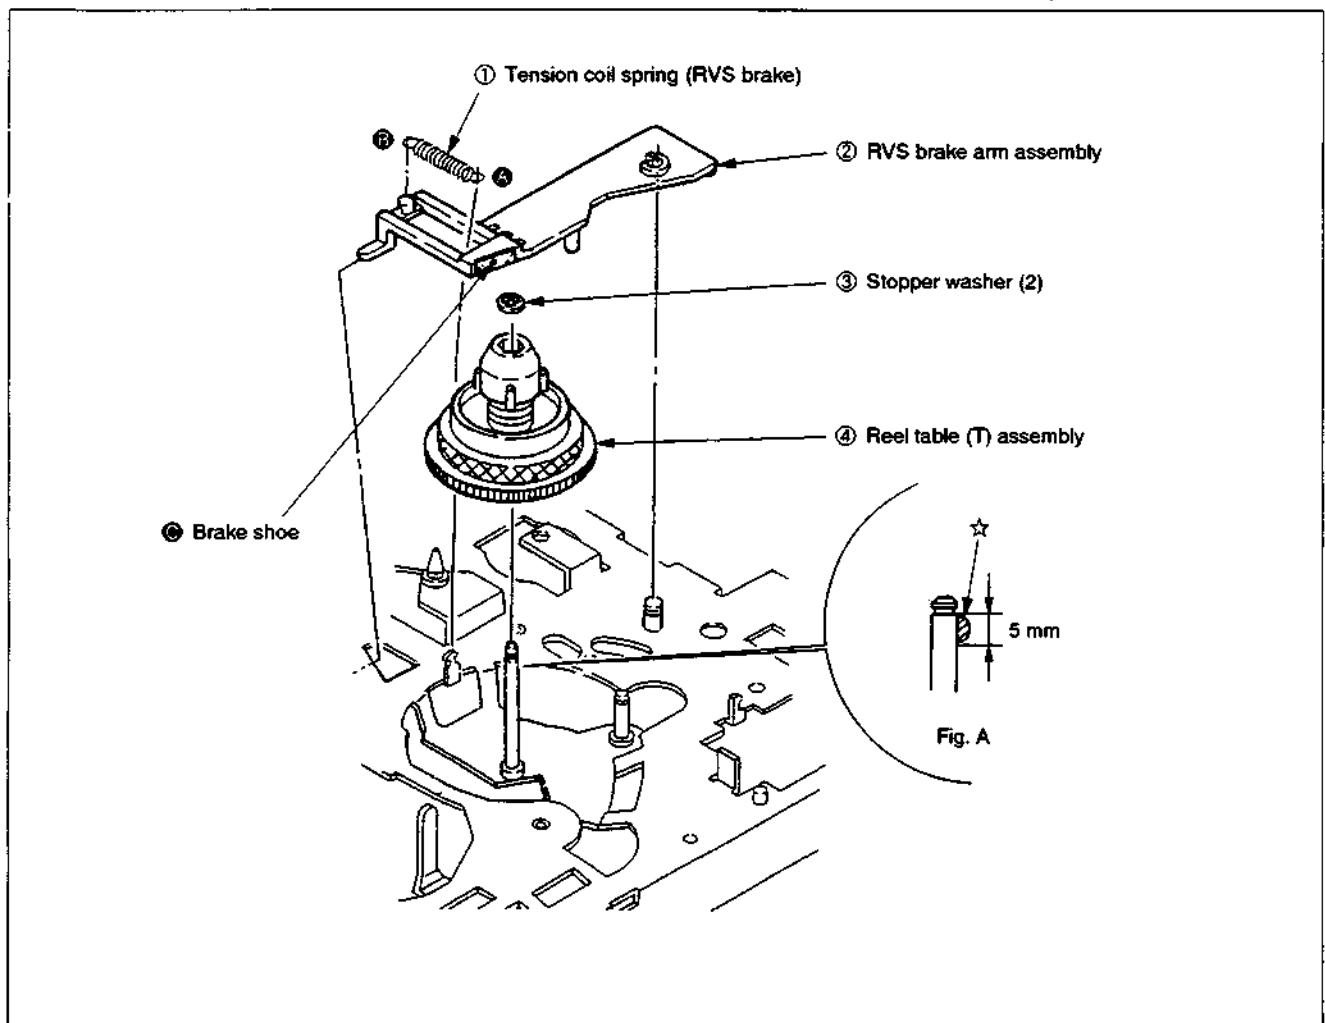

Fig. 3-14
3-12. RVS BRAKE ARM ASSEMBLY, REEL TABLE (T) ASSEMBLY (Fig. 3-14)
- 3) Remove tension coil spring ① in the order ④ to ③.
- 4) Remove RVS brake arm assembly ②.
- 5) Remove stopper washer (2) ③ to pull out reel table (T) assembly ④.